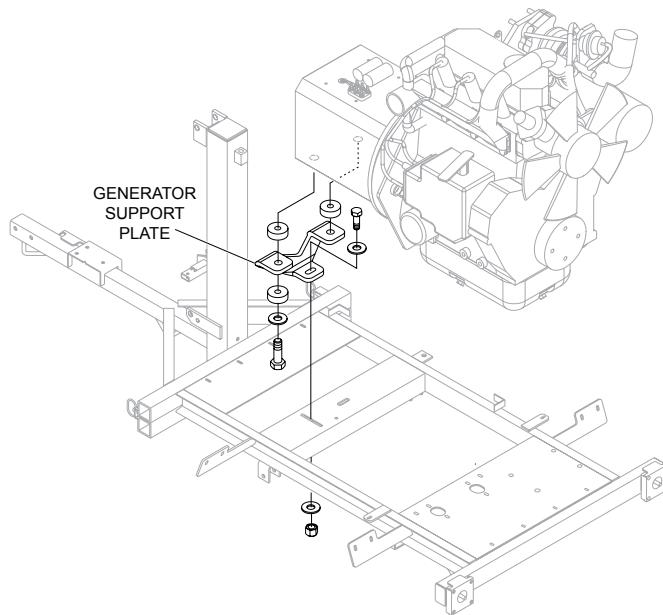

Figure 12. Remove Generator Support Plate
1. Remove and discard generator support plate and hardware securing it. See Figure 12.